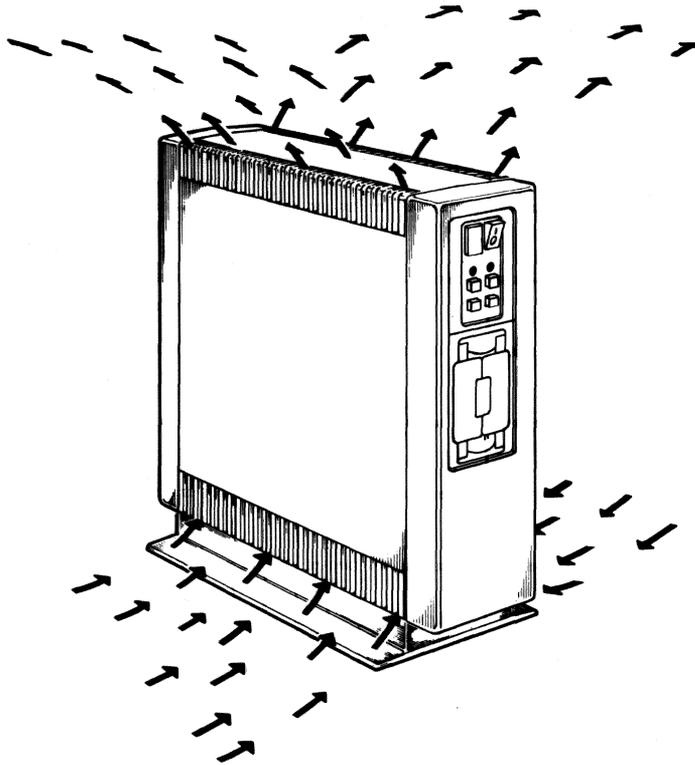

Figure 1-5 Airflow
1.3.1.1 Air Circulation – Two fans in the BA23-A frame draw air from the bottom of the enclosure. (Figure 1-5) One fan is above the control panel, the other above the power supply.